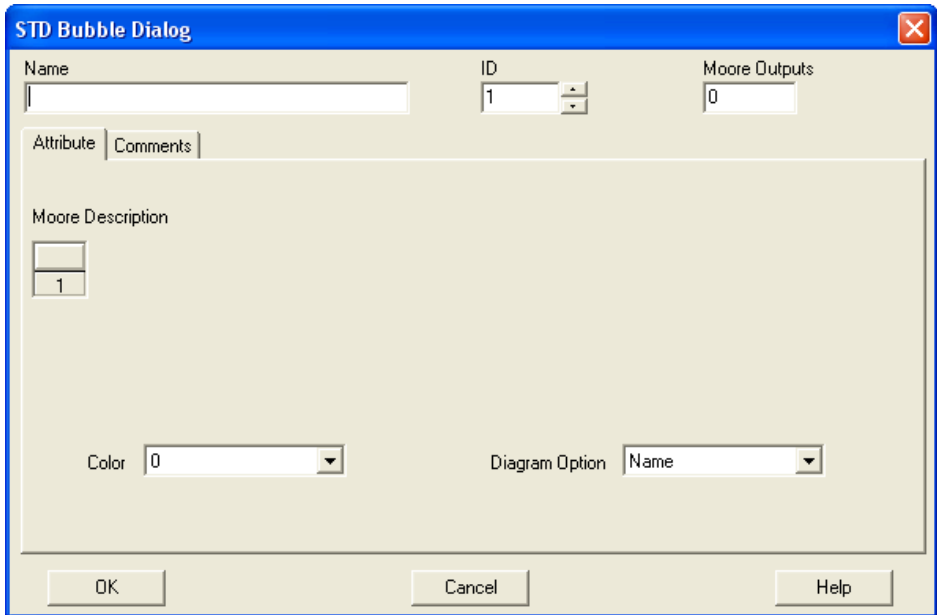

Figure 4-2. Default STD Bubble Dialog
2. Press <Return> to raise the STD Bubble Dialog, as shown in Figure 4-2.
The dialog box shown in Figure 4-2 opens. In the dialog box, you can enter values for the name and the number of Moore Outputs. You can enter optional comments on the Comments tab.